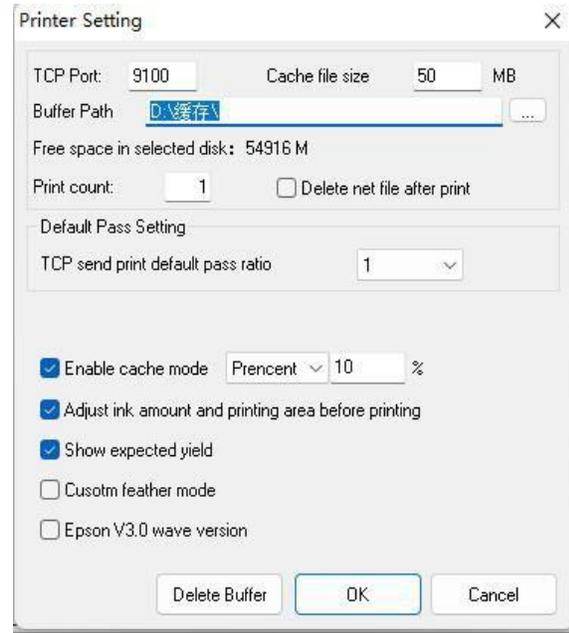

Fig2
- Print Settings are shown in figure 2